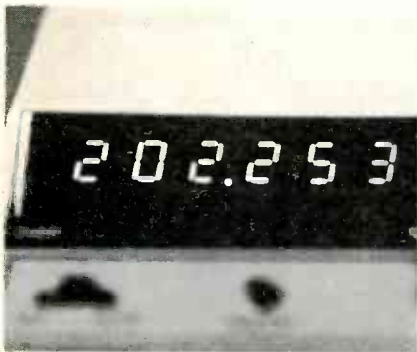

Fig. 2 Brightness of the LED digits is shown here by the light of a single 40-watt fluorescent bulb about four feet away.
- 6 digits (Figure 2) of the 7-segment LED type, about 1/4-inch high (although the overflow feature can be used to give the effect of 7 or 8 digits);